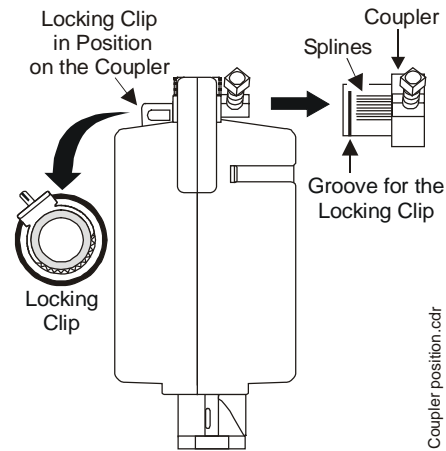

Figure 6: Changing the Position of the Coupler
7. If the coupler is on the top side of the actuator, remove the coupler. To change the coupler's position, pull the locking clip off the coupler, and remove the coupler of the actuator. Reinsert the coupler into either the clockwise (CW) or counter clockwise (CCW) face of the actuator. The coupler splines are designed to prevent inserting the coupler at the wrong end of the rotation range. See Figure 6.